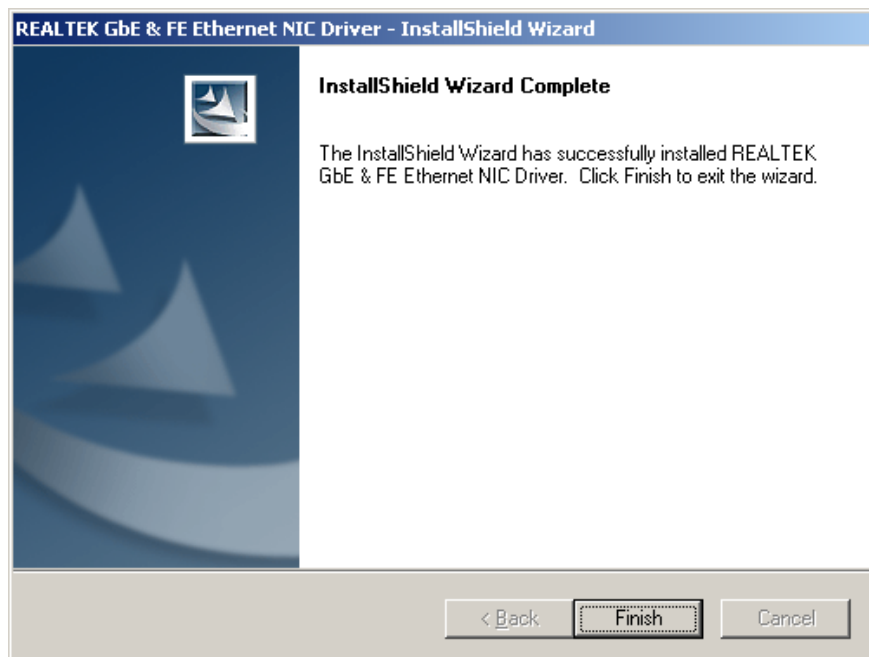

Figure 6-15: Realtek LAN Driver Installation Complete
Step 5: After the driver installation process is complete, a confirmation screen appears (Figure 6-15).